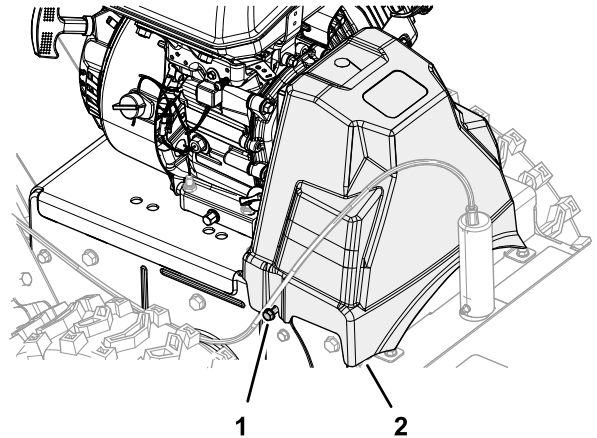

Figure 42
1. Loosen the 2 flange-head screws that secure the belt cover to the machine (Figure 42).